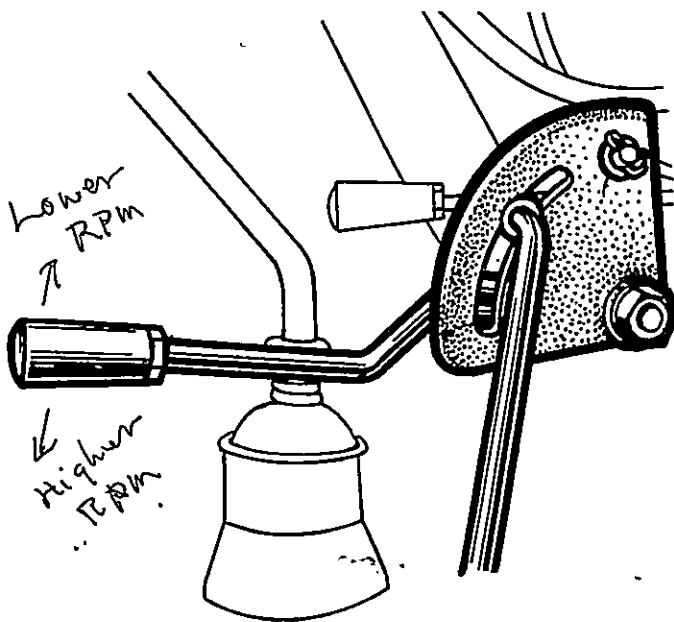

Fig. 3-8
e. Set the hand throttle half open. (see Fig. 3-8)